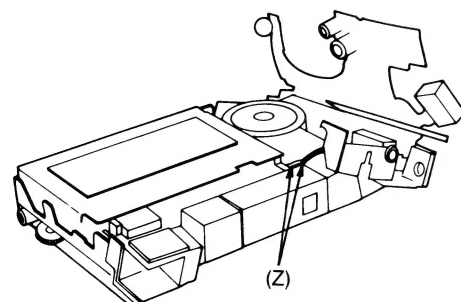

Fig. 14
7. Unsolder the head lead wires (Z) and remove the PC board ass'y from the mechanism. (Fig. 14)